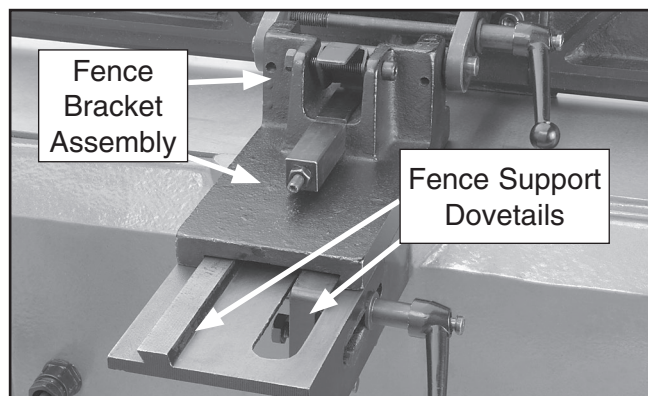

Figure 13. Sliding the fence bracket onto the fence support dovetails.
2. Slide the fence bracket assembly over and onto the dovetails of the support and locking plate as shown in **Figure 13**.